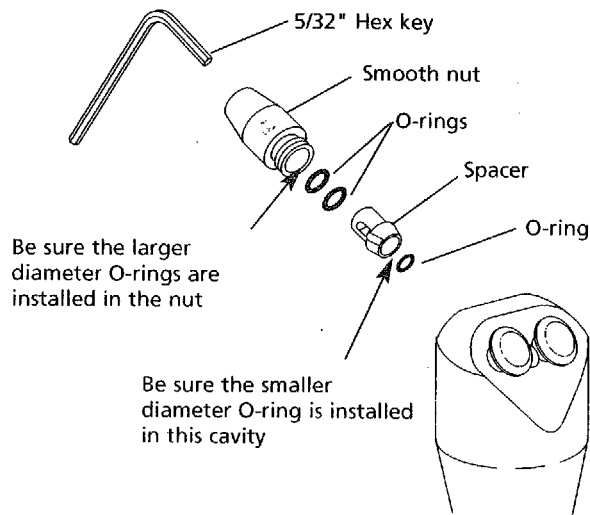

Figure 64. Replace the smooth syringe nut assembly O-ring.
4. Install the new smooth syringe nut assembly (see Figure 64). Be sure that the smaller diameter O-ring is installed in the spacer cavity and the two larger diameter O-rings and spacer are in the nut. Tighten firmly with the hex key provided.